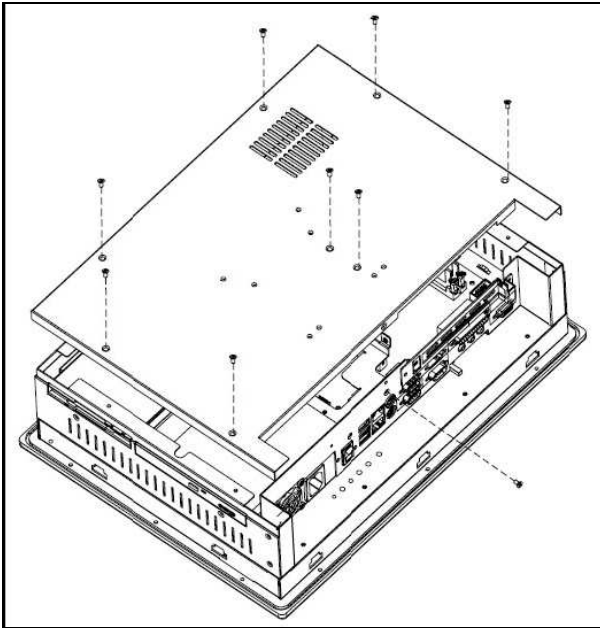

Figure 4-1: Rear Cover Retention Screws (Rear Panel)
Step 2: The back cover is secured to the chassis with nine retention screws, eight on the rear panel and one on the bottom panel. (See **Figure 4-1**) Remove the nine retention screws and lift the cover off the IVC-15PC-P.